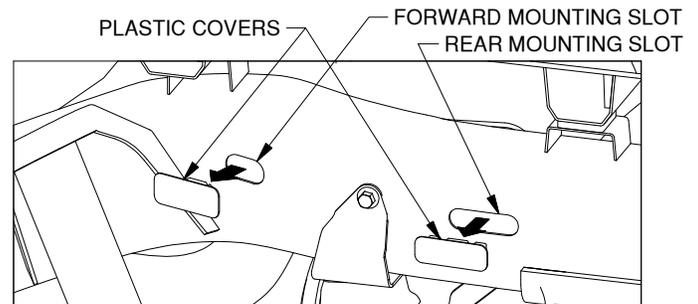
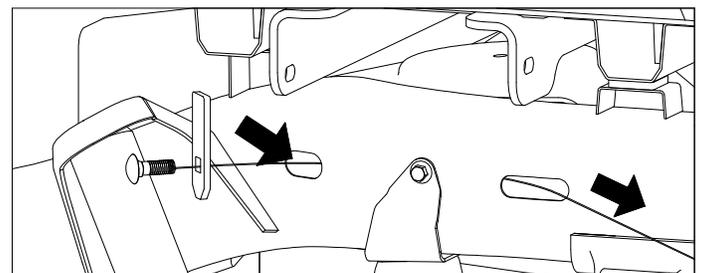
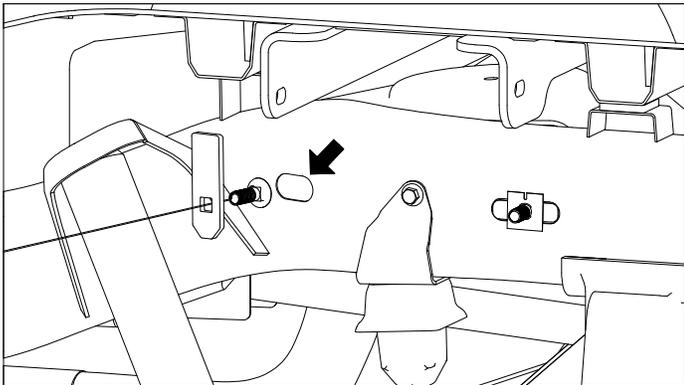
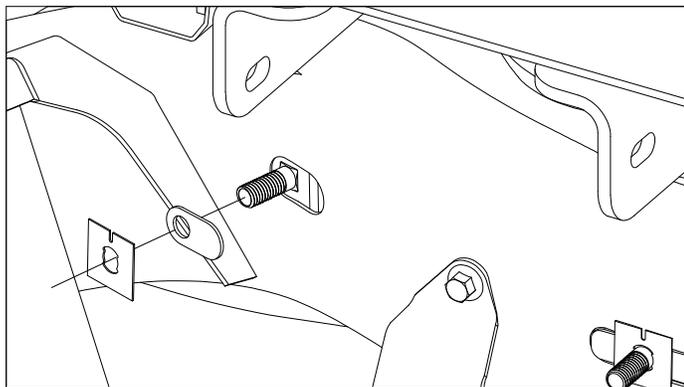

Figure A9: View looking into driver side wheel well.
Figure A10: View looking into driver side wheel well.
Figure A12: View looking into driver side wheel well.
Figure A13: View looking into driver side wheel well.
12. **Prepare to install carriage bolts.** Locate the plastic slot covers inside each rear wheel well, as shown in Figure A9. Remove four covers by prying them out of the frame. Discard the covers.
13. **Fish rear carriage bolt.** Locate the forward and rear mounting slots shown in Figure A9. Thread a 1/2" x 1-1/2" carriage bolt and locking strap onto a fish wire. Pass the fish wire from the forward mounting slot through the frame and out of the rear mounting slot, as shown in Figure A10.
- 15. Install forward carriage bolt.** Locate the forward mounting slot shown in Figure A9. Thread a carriage bolt and locking strap onto a fish wire. Insert the carriage bolt and locking strap through the mounting hole until both are completely inside the frame and only the carriage bolt is passing through the hole, see Figure A12. Install the oval frame spacer onto the bolt and place it into the slot in the frame, as shown in Figure A13. Thread a retainer onto bolt until it is snug. Repeat Steps 13-15 on other side of truck.